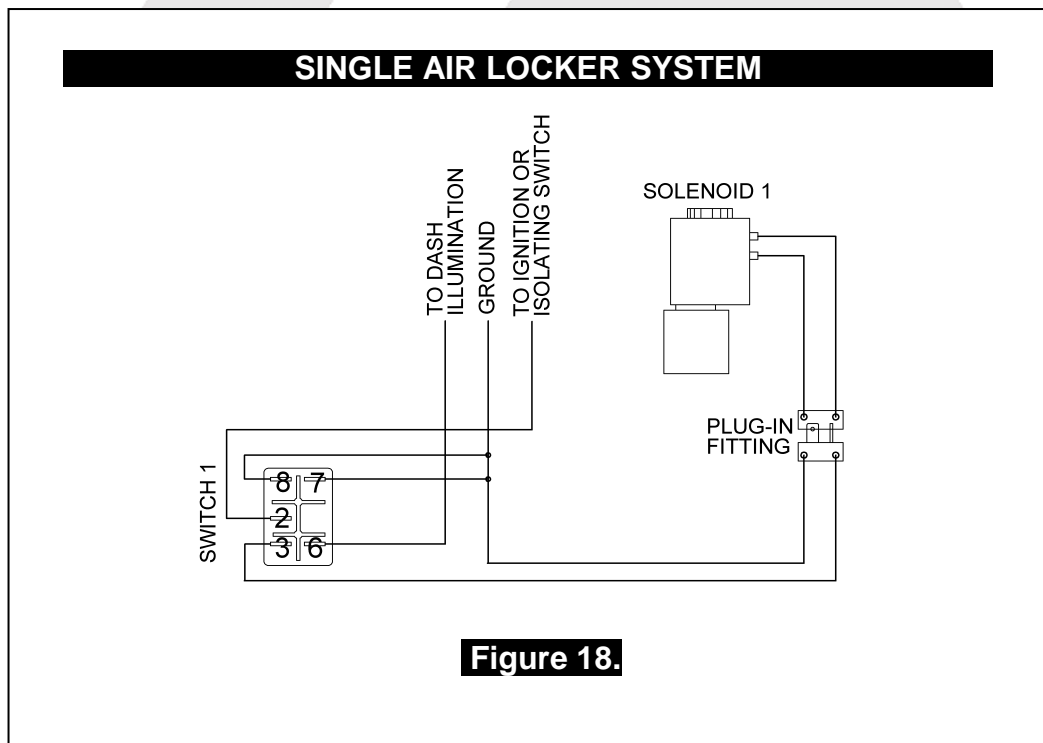

Figure 18.
When connecting the actuation switch to an alternate air source, the switch(es) should be wired according to figures 18. and 19. depending on whether one or two *Air Lockers* will be installed in the vehicle.
- If only one *Air Locker* is to be installed in the system, the switch and solenoid should be wired according to figure 18. regardless of whether the *Air Locker* has been installed in the front or rear axle of the vehicle.